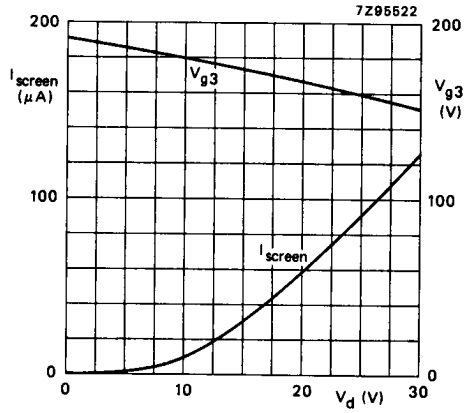

Fig. 5 Screen current ( $I_{\text{screen}}$ ) and focusing voltage ( $V_{g3}$ ) as a function of grid drive voltage ( $V_d$ ); typical curves.
5. An actual focus range of 30 V should be provided on the front panel.  $V_{g3}$  decreases with increasing grid drive (see also Fig. 5).
6. Intensity control on the front panel should be limited to the maximum useful screen current (approx. 50  $\mu$ A; see also Fig. 5). It is to be adjusted either by the grid drive (up to 22 V) or for maximum acceptable line width. The corresponding cathode current or  $I_{g_{2,g4}}$  (up to 500  $\mu$ A) depend on the cut-off voltage and cannot be used for control settings.